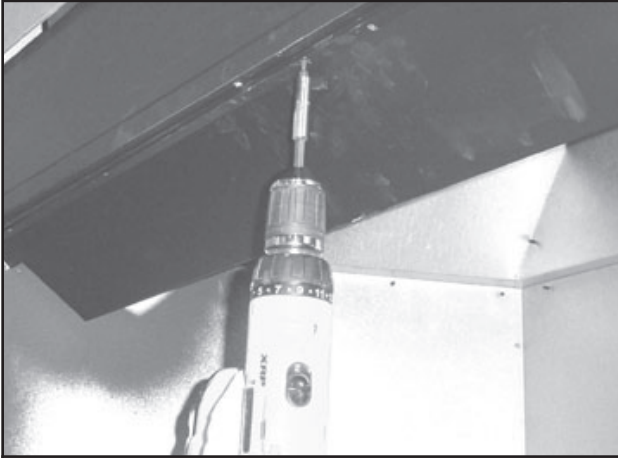

Figure 8.1 Remove Smoke Shield
- Remove smoke shield by removing five screws (starting from one side: remove two, skip one, remove one, skip one, remove two). See Figures 8.1 and 8.2.